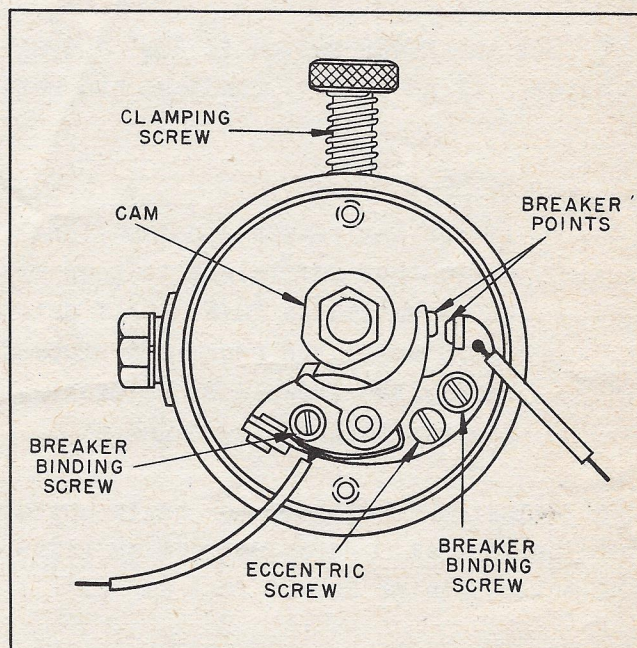

Figure 19 - Commutator (Cover Removed)
d. COMMUTATOR. (See figure 19.) - Remove all grease and oil from the contacts after every 50 hours of operation by washing with carbon tetrachloride. Wipe them with a clean, dry cloth. Do not disturb the timing. Check contacts for $.005 \pm .001$ maximum opening.
(1) To check the clearance of the breaker points and adjust them proceed as follows:
(c) If the adjustment is not within the required tolerance, loosen the two breaker binding screws (figure 19) slightly and adjust the clearance by rotating the eccentric screw. Retighten the two breaker binding screws and replace the commutator cover.